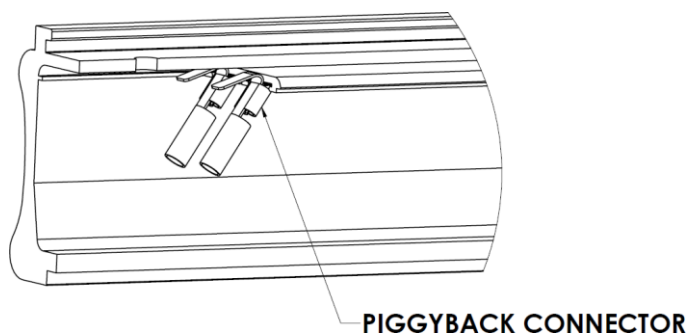

Figure 60: ***Short-Wired Piggyback Connectors Attached to the Male Terminal Tabs on the TransStrip***
7. Connect the short wired piggyback connectors to the male terminal tabs on the TransStrip (Figure 60).